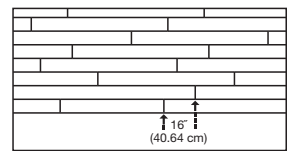

Figure 18
- Check for a tight fit between all edges and ends of each plank. End-joints of adjacent rows should be staggered a minimum of 16" (40.64 cm) when possible, to ensure a more favorable overall appearance (Figure 18).